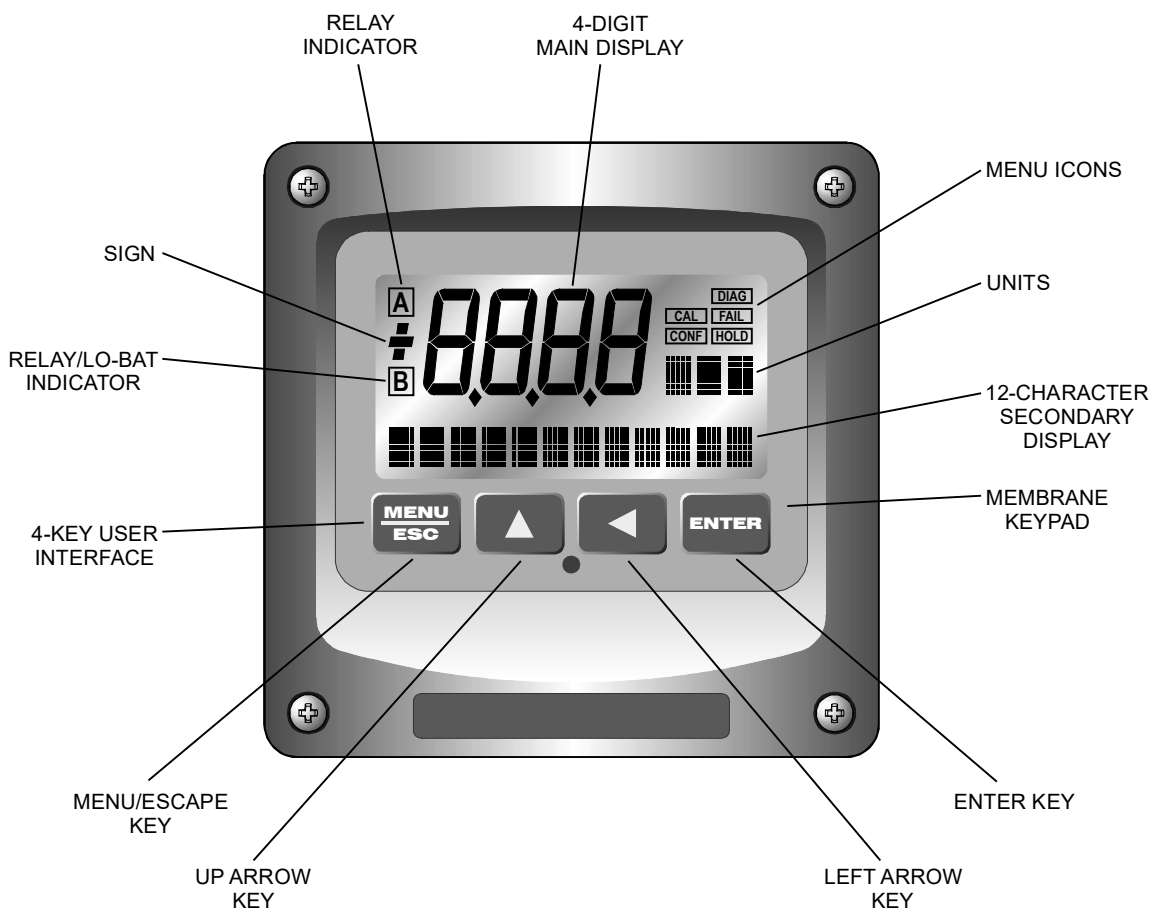

Figure 19 - User Interface
- The **CON** setting enables normal setpoint operation for Relay B/C. Relay B/C then operates identically to Relay A, with settings for setpoint, hysteresis, delay and phasing appearing in the CONFIG menu automatically. See Figure 19 for details.